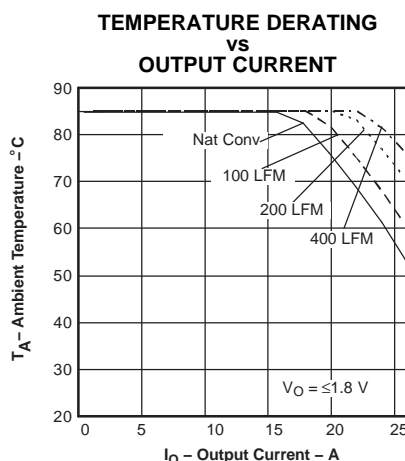

Figure 9.
- (2) SOA curves represent the conditions at which internal components are at or below the manufacturer's maximum operating temperatures. Derating limits apply to modules soldered directly to a 4 in. × 4 in. double-sided PCB with 1 oz. copper. For surface mount products (AS and AZ suffix), multiple vias (plated through holes) are required to add thermal paths around the power pins. Please refer to the mechanical specification for more information. Applies to Figure 9.